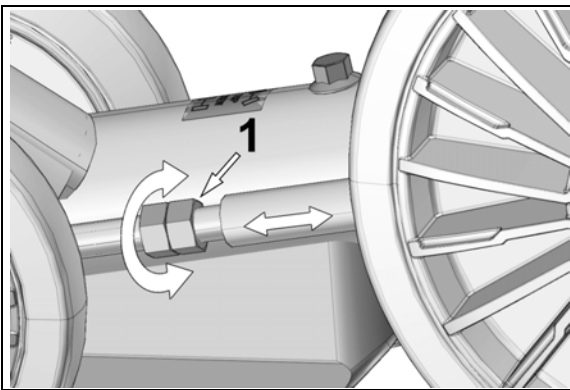

Figure 26
Loosen jam nut and turn adjusting nut (1) to set track tension. See Figure 26.